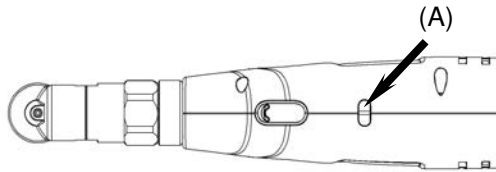

Fig.11
The green light will flash when the tighten torque reach the setting value and alarm. Oppositely the tighten torque do not reach the setting value the red light will flash and alarm. (see Fig.11 (A))